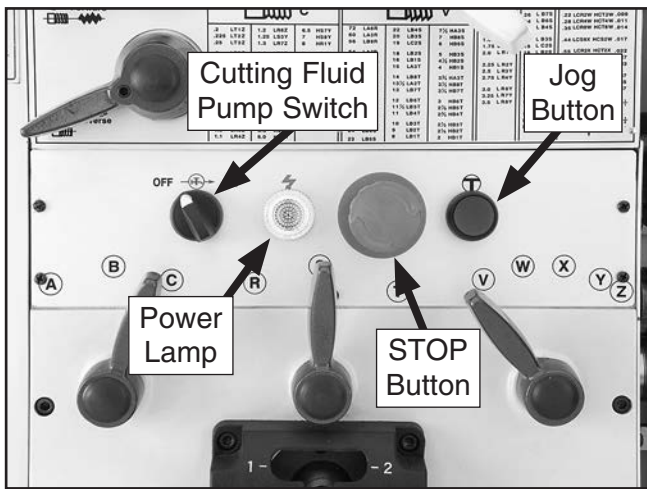

Figure 25. Control panel.
- Push the STOP button on the control panel (see **Figure 25**), and point the coolant nozzle into the chip pan.